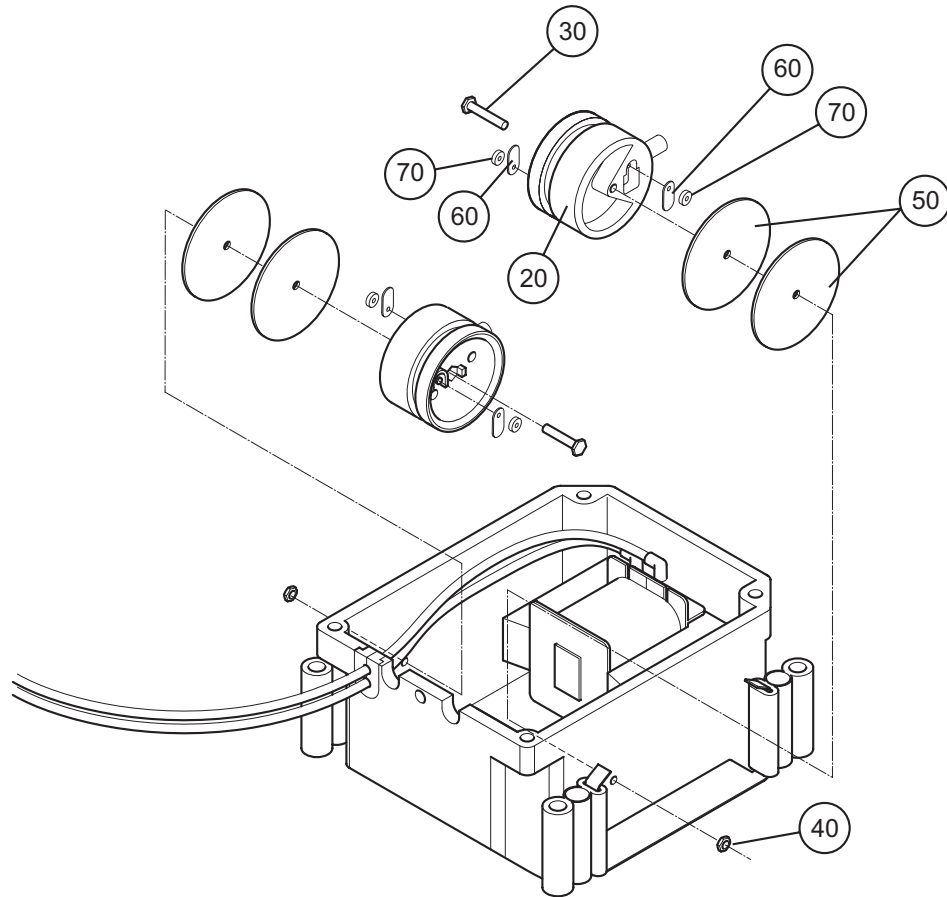

Figure 12 - Compressor Valve Bodies
- 25.3 Unscrew and remove the securing nut (Fig12, Item 40) on the side of the compressor housing.
- 25.4 Remove the valve body (Fig 12, Item 20) and Valve body washers (Fig 12, Item 50).
- 25.5 Remove the valve flap securing pads and the valve flaps (Fig 12, Items 70 and 60)
- 25.9 Position the replacement valve body and secure with screw (Fig 12, Item 20) and nut. Fit the bellows to the valve body.